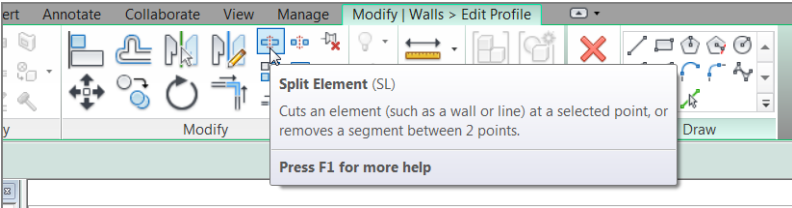

FIGURE 4.37: Select the Split Element button on the Modify | Walls > Edit Profile tab.
- 4. On the Modify | Walls > Edit Profile tab, click the Split Element button, as shown in Figure 4.37.